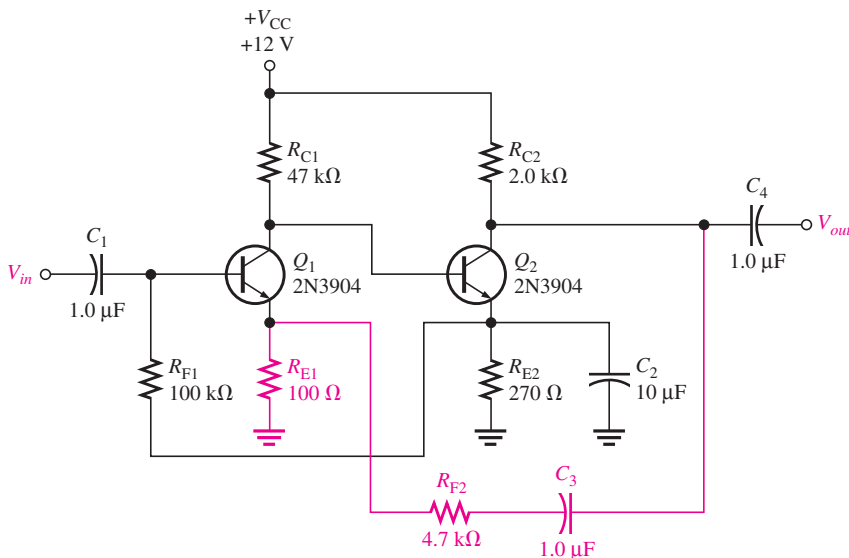

FIGURE 5-20 Modification of the circuit in Example 5-5 to improve gain stability.
The amplifier illustrated in Example 5-5 has high gain but the gain is somewhat dependent on the β . Negative feedback provided excellent bias stability that was not dependent on a particular β . It's also possible to provide excellent gain stability that is independent of β by using negative feedback with the ac signal. As you will see, negative feedback produces a self-correcting action that stabilizes the voltage gain. The modification in Figure 5-20 shows how this is achieved.
First, a bypass capacitor, C_2 , is connected in parallel with R_{E2} in order to boost the voltage gain even higher; this will produce greater gain stability when feedback is added. The gain without feedback is called **open-loop voltage gain**, which will be described further when you study operational amplifiers in Chapter 6. For the amplifier in Figure 5-20, the addition of the emitter capacitor boosts the open-loop voltage gain by a factor of approximately two.¹ Then a new path is added, consisting of C_3 and R_{F2} , to return a fraction of the output ac signal back to Q_1 . The fraction that is returned is determined by the
4. How is gain determined for the circuit in Figure 5-20?